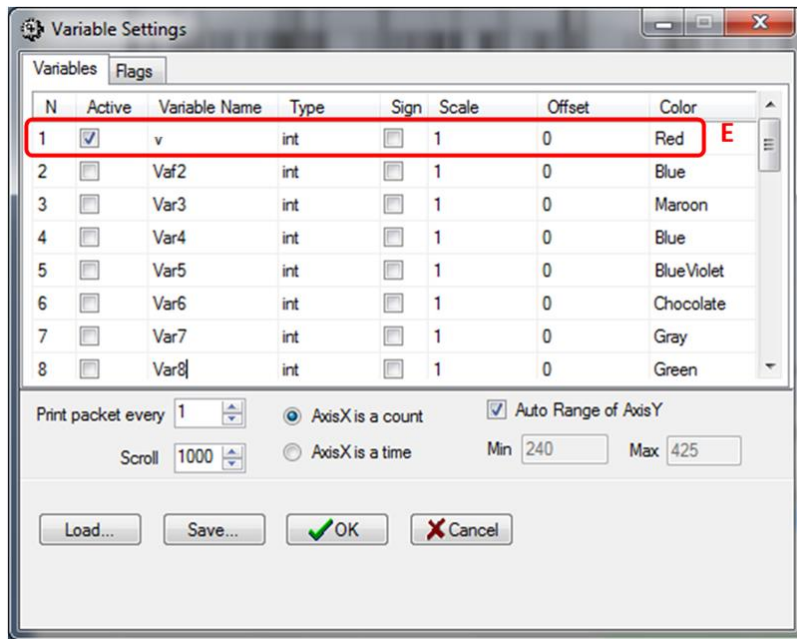

Figure 3: Bridge Control Panel Variable Setup
- E. Go to "Chart -> Variable Settings" and rename one of the variables to "v" with the type "int", and check the "Active" box (Figure 3). Note that the "v" is lowercase.